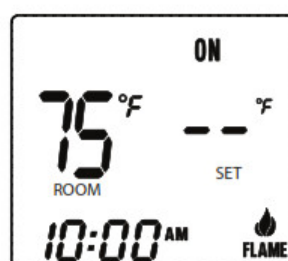

Fig. 5 Manual ON
Step 1: Press the **MODE** button one time to manually turn **ON** the appliance (Fig. 5).